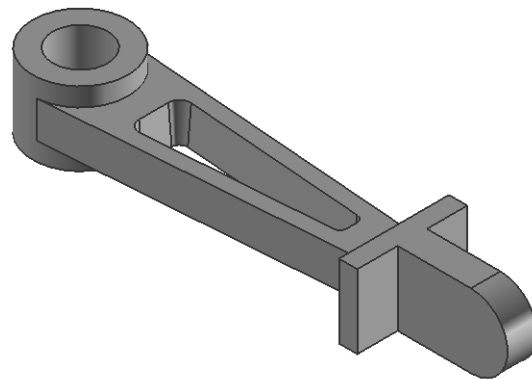

Figure 8-69 Model after creating the edge blend feature
- h. Create the edge blend using the **Edge blend tool**, refer to Figure 8-69.
3. Choose the **OK** button from the **Edge Blend** dialog box. The rectangular pad, after creating the edge blend feature, is shown in Figure 8-69.